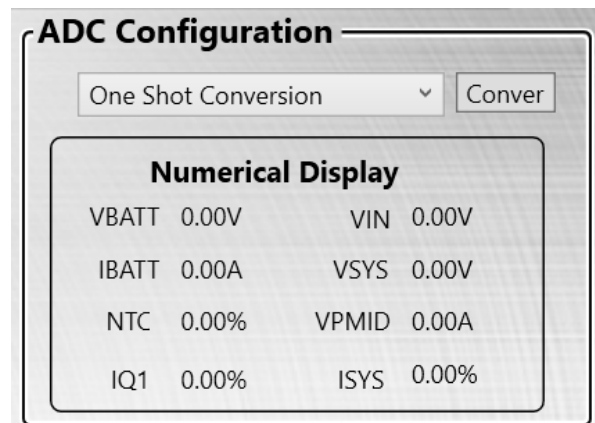

Figure 9: MP2770 GUI ADC Configuration
10. Configure the analog-to-digital converter (ADC) (see Figure 9).